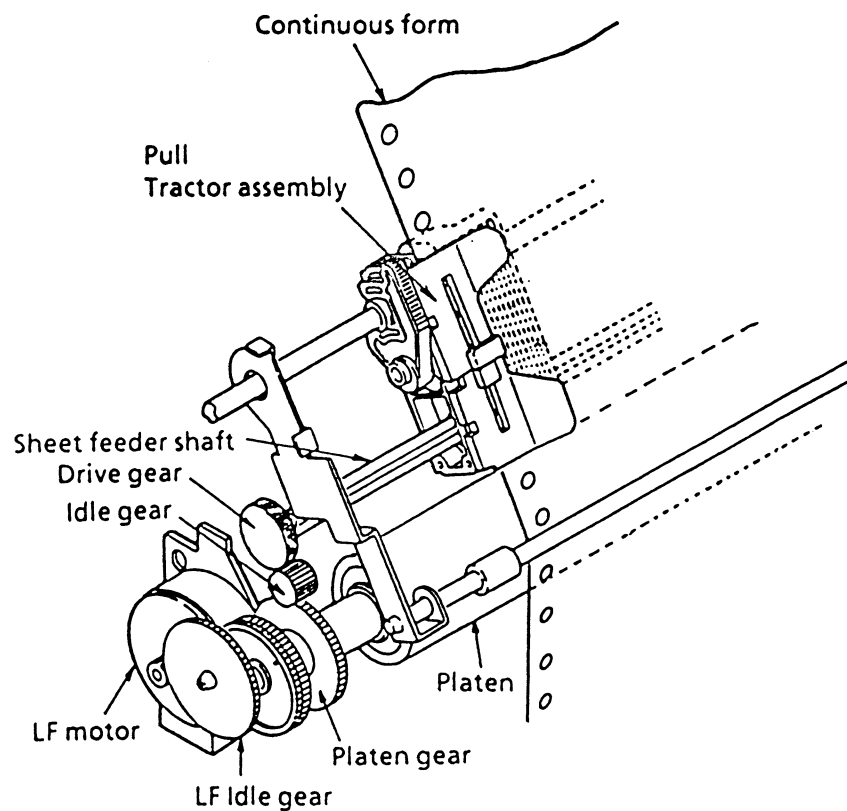

Figure 3-12
(5) Pull tractor mechanism (option) (See Figure 3-12)